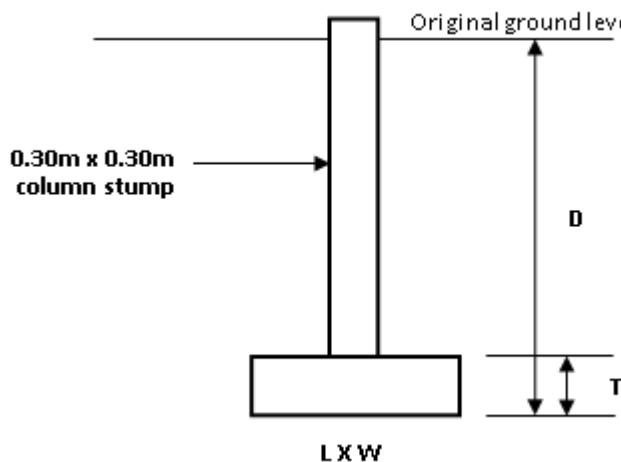

Figure B2(c) / Rajah B2(c)
- (c) Based on the information given in **Table B2(c)** and **Figure B2(c)**, prepare the construction cost for concrete work (1:2:4 -20mm agg.) mixed manually.